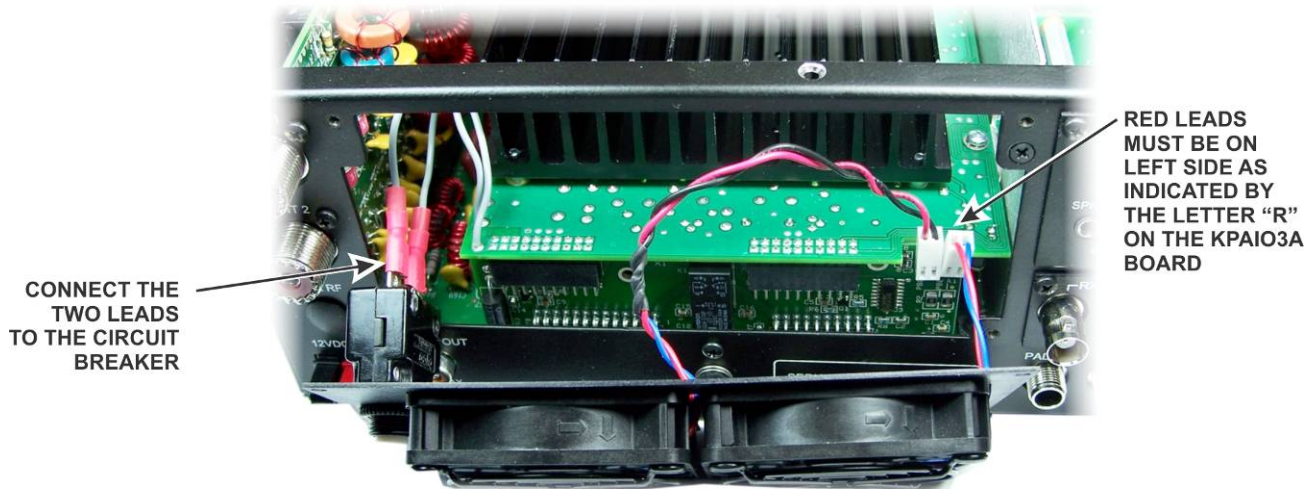

Figure 16. Connecting Fan Panel.
- ☐ Position the fan panel you assembled earlier behind the opening at the rear of the K3s/K3 and connect the leads as shown in Figure 16.